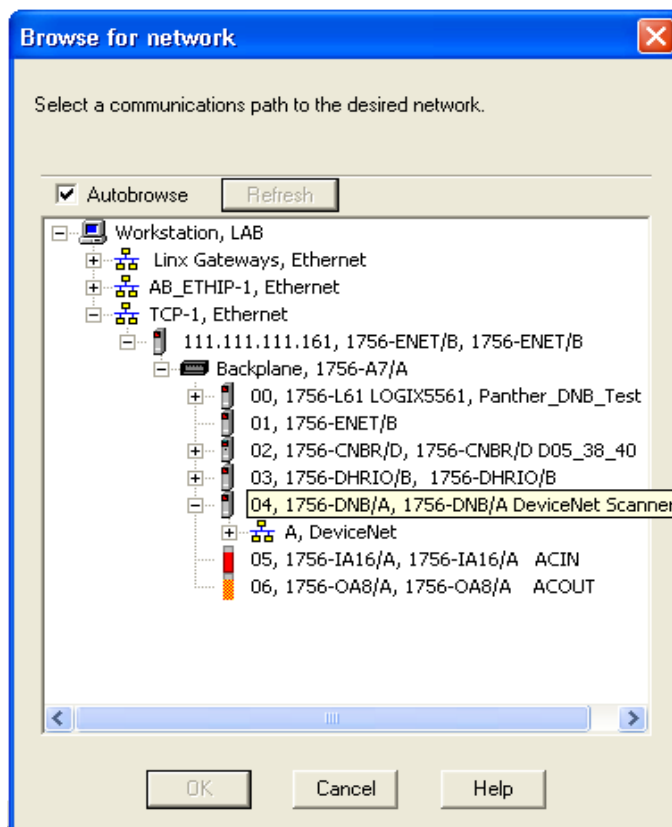

Figure 5-13: Browse for network
2. Select the appropriate network path. In this case (Figure 5-13), 1756-DNB/A DeviceNet Scanner is selected.